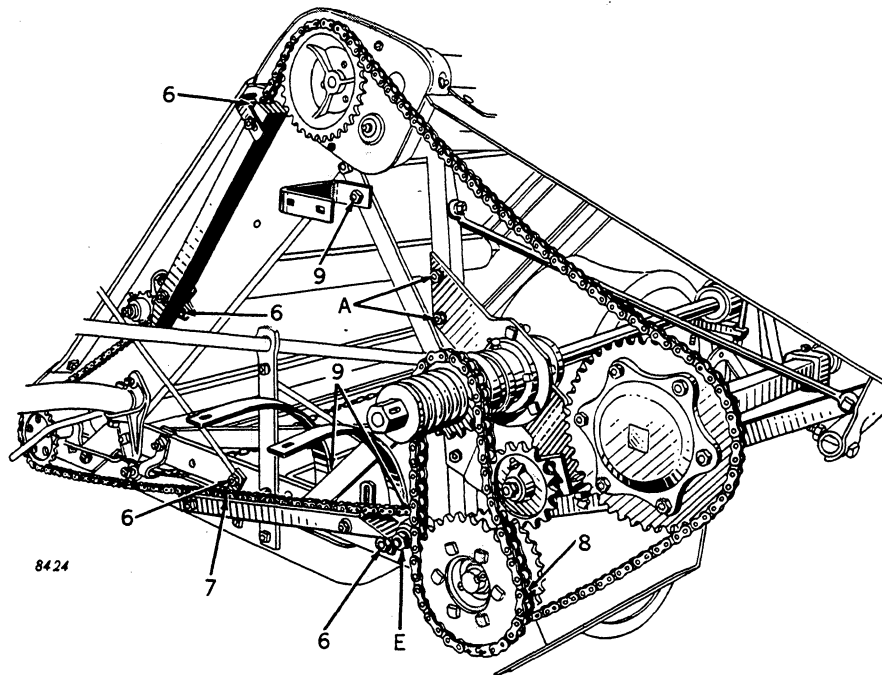

Figure 72
3. (Figure 72) Hook binder shifter link into shifter crank, hooking toward bundle carrier.
1. Set power shaft assembly in position and bolt loosely at "A," Figure 72.
6. (Figure 72) Bolt chain guide for platform and elevator chains as shown.
7. (Figure 72) Put on platform and elevator drive chain. Attach tightener sprocket, "E," Figure 72, and adjust tension of chain.
8. (Figure 72) Put on pitman drive chain and adjust tension with tightener.
9. (Figure 72) Bolt twine can brackets to front of main frame rear sill and to elevator diagonal tie brace.